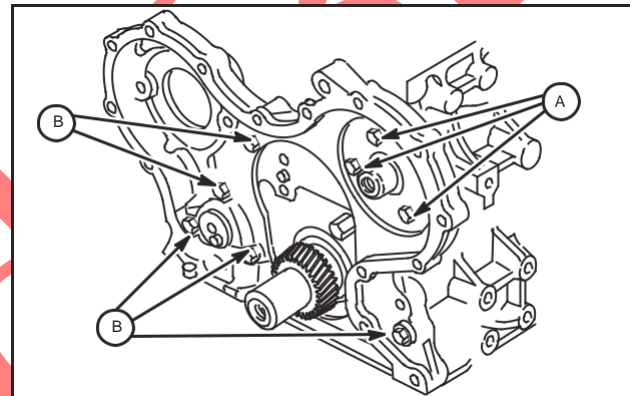

Fig. 12 – Removing Timing Gear Case
7. Remove parts in sequence shown, Fig. 12.